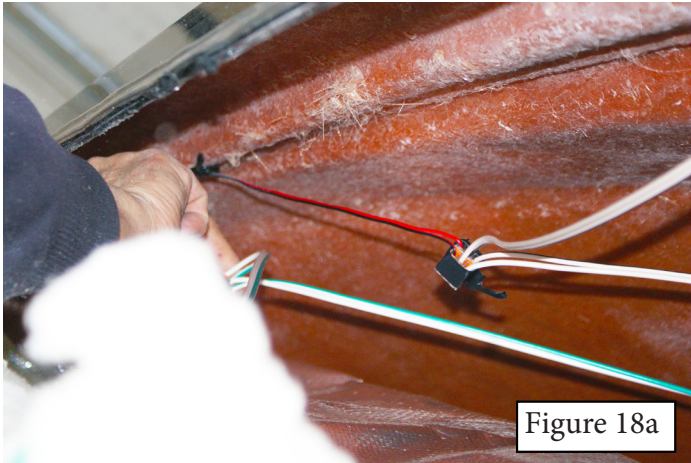

Figure 18a
7. Pull cap back and disconnect the lighting wiring from the cap (Figure 18a and 18b).